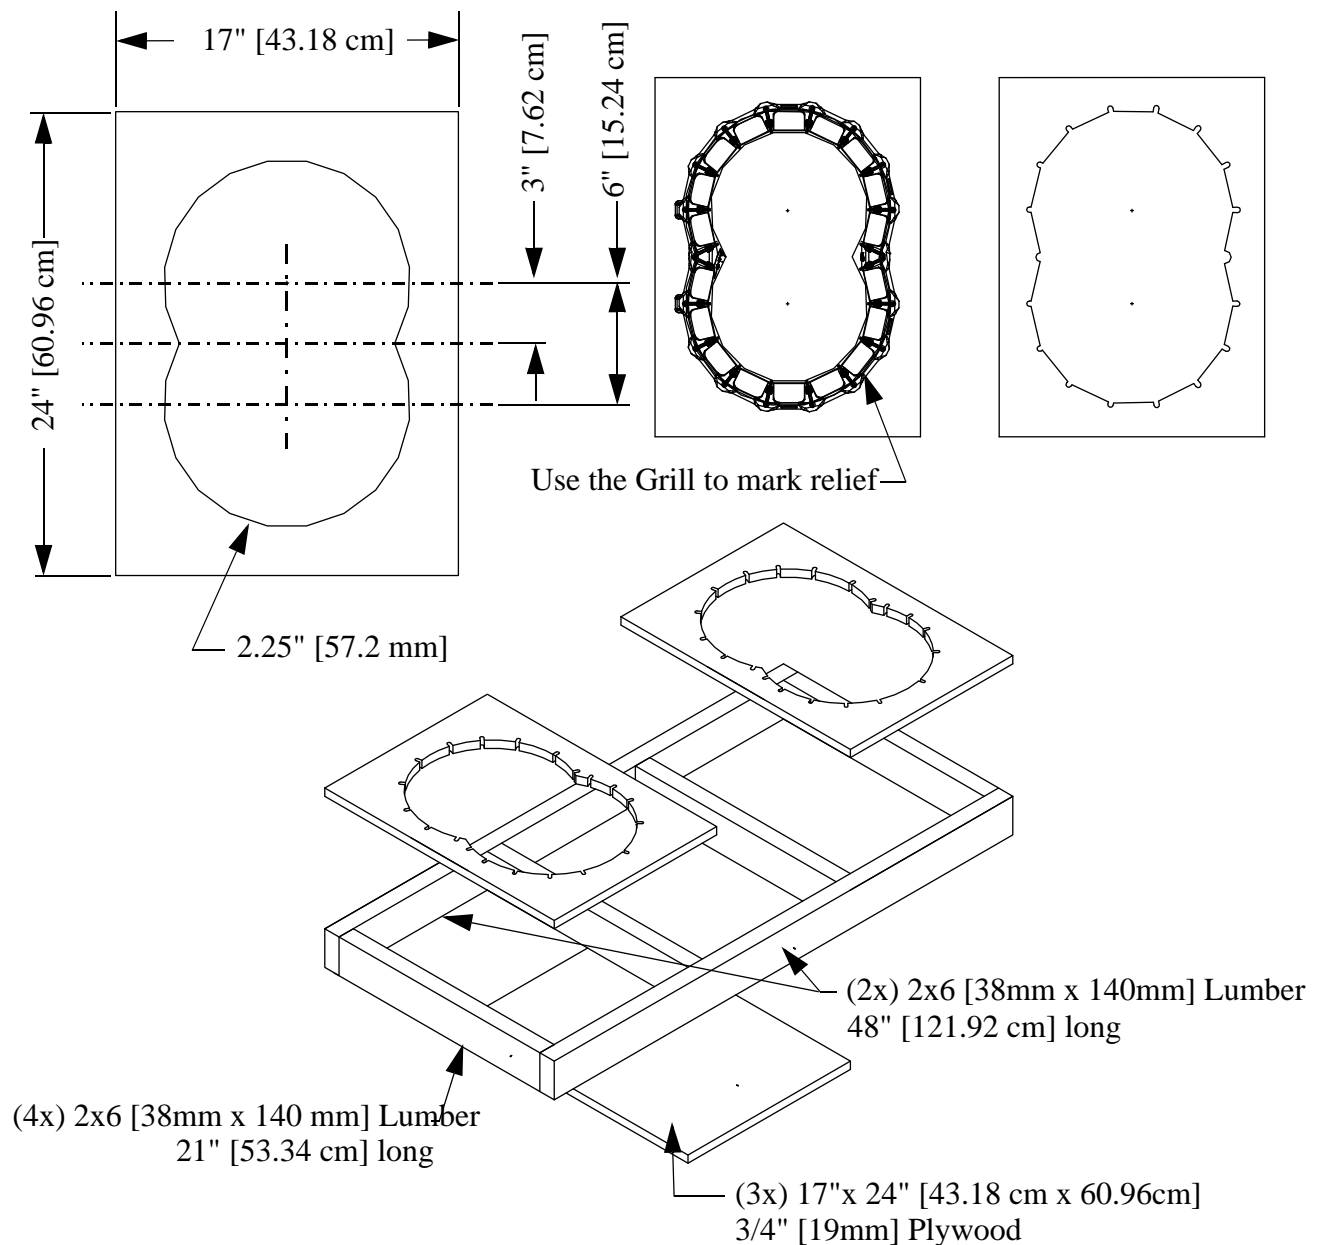

Figure 20. Feed Pan Assembly Box Construction
2. Center the grill on the 17"[432 mm] x 24"[609 mm] piece of plywood. Use a pencil and draw around the inside edge of the grill as shown in **Figure 20**. Mark a "V" at each strut location.
4. Use a spade bit to drill a hole at each strut location as shown in **Figure 20**.
6. Use FOUR (4) 21"[53.34 cm] and two (2) 48"[121.92 cm] 2 x 6 [51 mm x 236 mm] pieces of lumber to construct the box sides. Nail the 3/4" [19 mm] plywood fixture to the box.